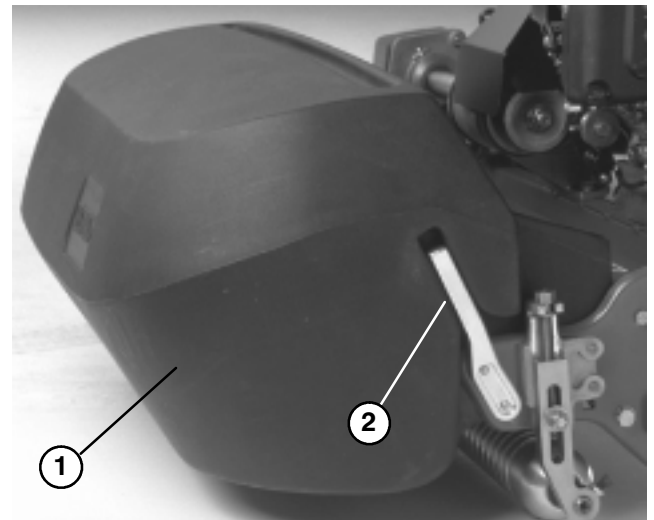

Figure 17
1. Grasp basket by top lip and slide onto the basket mounting rods (Fig. 17).